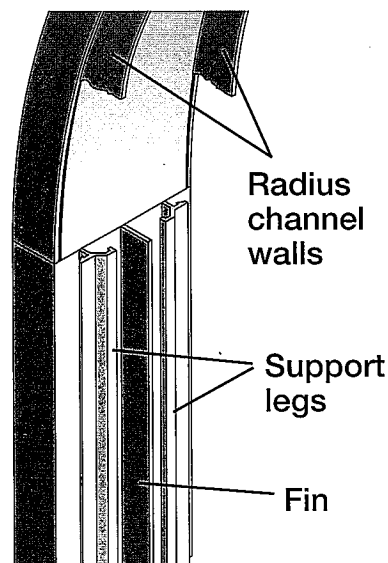

figure 3
5. Remaining on the straight sections of frame are two support legs and one fin that need to be removed (figure 3). Starting with the fin, bend it back and forth with a pair of pliers until it breaks free. The bases of the fin and legs are pre-scored to aid in their easy removal.